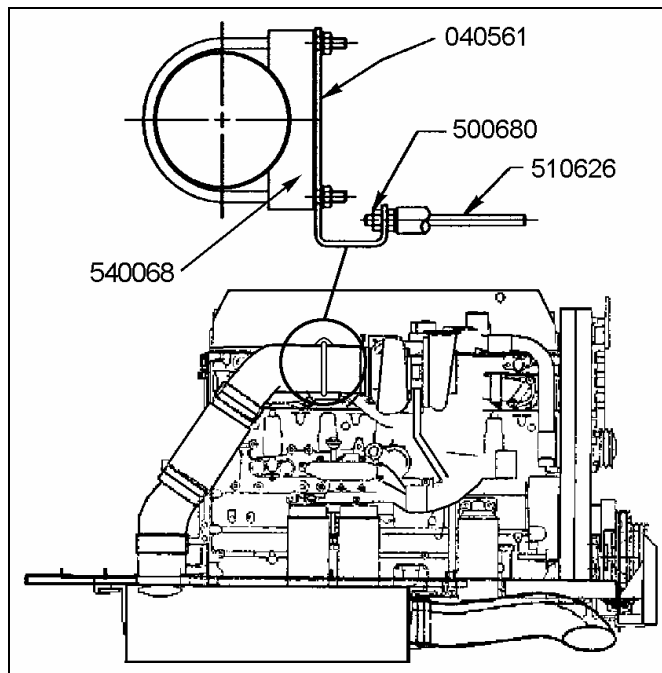

FIGURE 2: VIEW OF ENGINE – TURBO SIDE
6. Torque both engine stud bolts (Prévost #510626) to 43 - 54 lbf-ft (58 - 73 Nm). Install new reinforcement bracket (Prévost #040561) and tighten Stover nuts (Prévost #500680) as shown in figure 2.